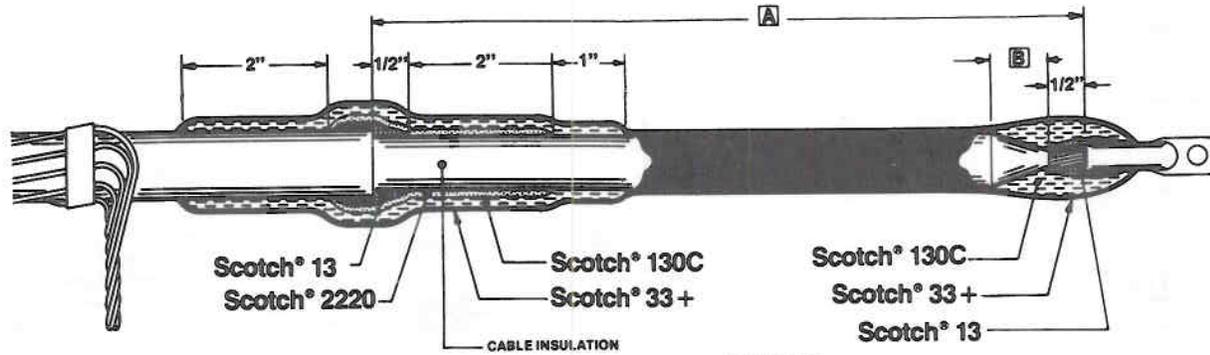

FIGURE 1
4. Wrap 130C Tape over entire termination overlapping 130C Tape in pencil area. Build up 130C Tape to a thickness of 3/16". See Figure 1.
1. Wrap one half-lapped layer of 33+ Tape over entire termination covering lug on conductor seal and extending 1/2" onto cable jacket. See Figure 1.
3. Overwrap ENTIRE termination with at least one half-lapped layer of 70 Tape. See Figure 1.